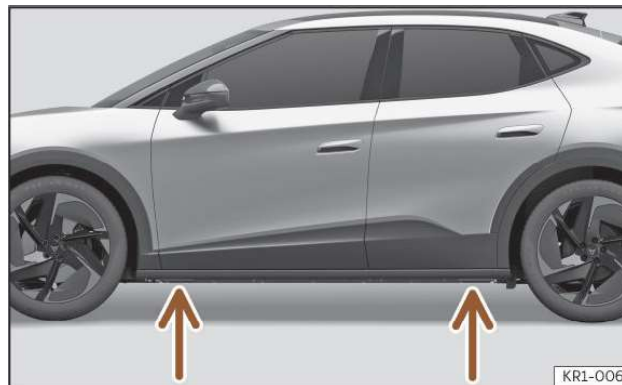

Fig. 206 Jack position points.
- Look on the strut for the mark of the jack support point (sunken area) closest to the wheel to be changed >>> **Fig. 206**.